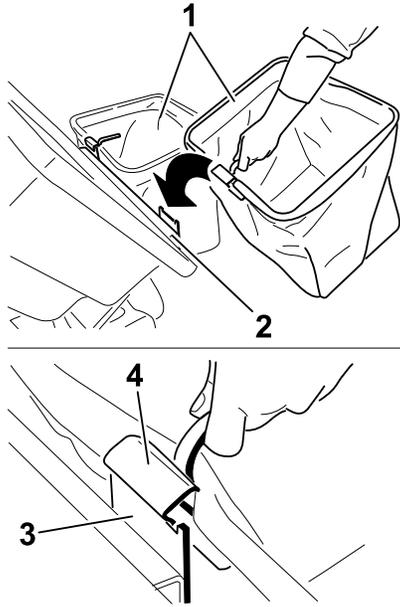

Figure 20
- Lift the bagger top and install the bags by sliding the bag frame hooks onto the retaining brackets (Figure 20).